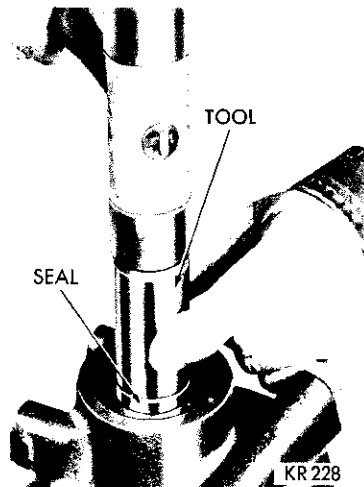

Fig. 6—Installing Pump Oil Seal
(7) Install new seal with lip of seal toward pump. Use Tool C-3782 for 1.2 pumps (C-3643 for .96 pumps) to drive seal flush with insert (Fig. 6).